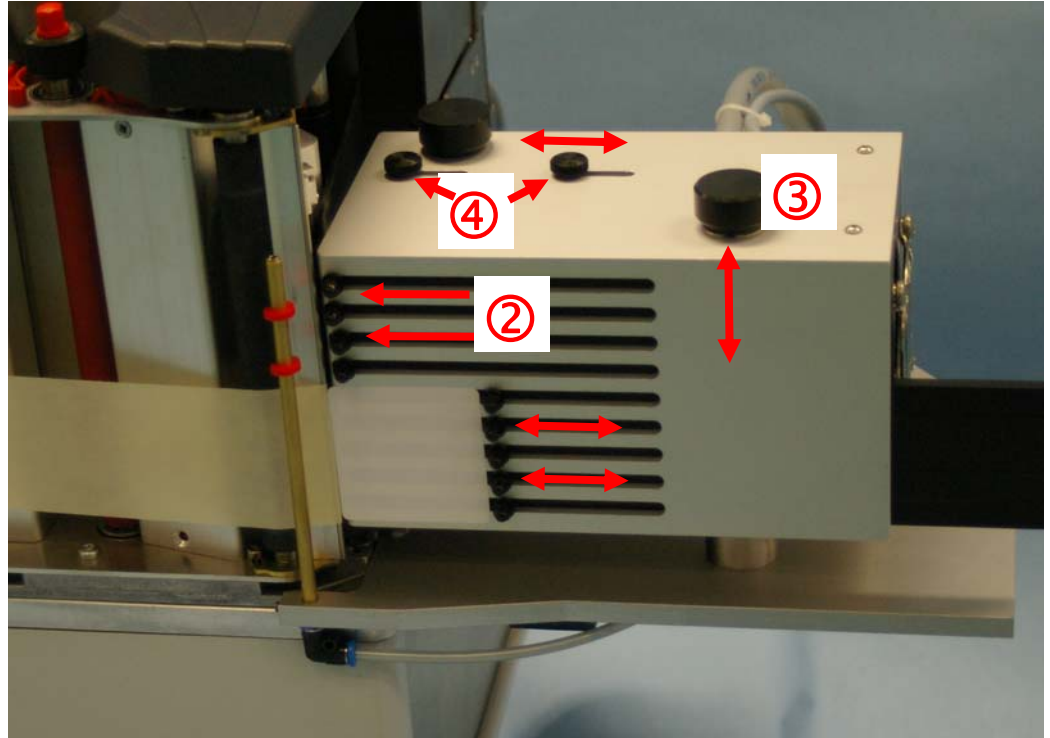

Fig. 3: Adjusting the bars in the vacuum grid so air nozzles outside the label surface are closed off.
Turn the black lower-right knob (see also (3) of fig 3) clock or counter clockwise until the sliding bars / nozzles are centered over the width of the label.
Loosen the 2 small black knobs (see also (4) of fig 3) and slide them towards the dispensing edge for label formats with a length of less than 75 mm. In case the label is longer than 75 mm, slide the 2 small black knobs away from the dispensing edge.